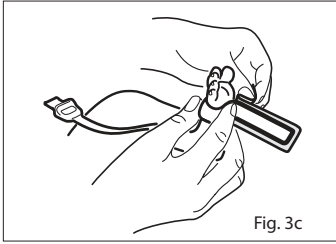

Fig. 3c
4. Refer to Fig. 3c. Wrap the adhesive/foam wrap around the lateral aspect of the foot (or hand) and ensure that the emitter window (✱) aligns directly opposite of the detector. Be careful to maintain proper alignment of the detector and emitter windows while attaching adhesive/foam wrap to secure the sensor.